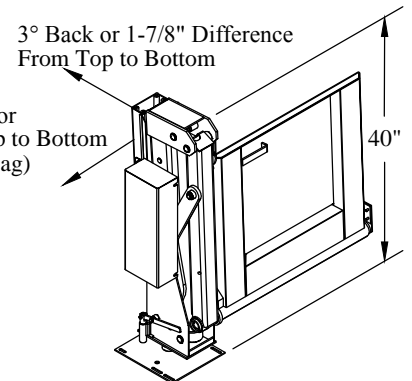
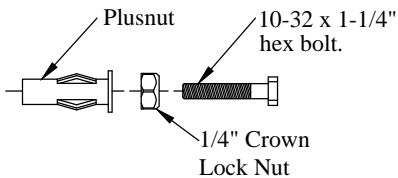

Figure 10: Liftgate properly tipped.
Figure 11: Plusnut Parts.
4. **Position** the liftgate so it is tipped 3 degrees back and 1 degree to the left (Figure 10).
7. **Locate** and **Drill** eight (8) 5/16" holes into the rear door header, using the top angle bracket as a guide. Choose eight (8) of the angle bracket holes without obstructions.
8. **Assemble** the Plusnut with the 1/4" crown lock nut and 10-32 x 1-1/4" hex bolt (Figure 11)